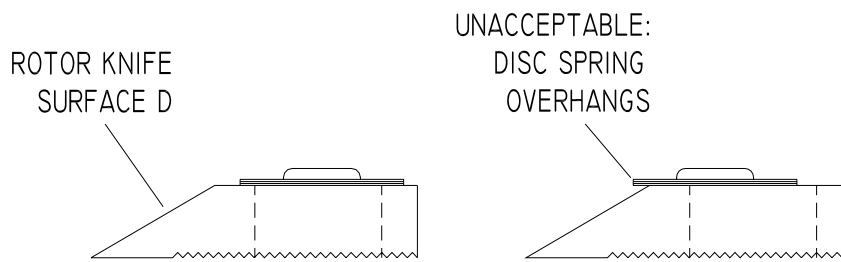

FIGURE 7
Rotor knives cylindrically ground on the cutter rotor should remain untouched. When using "pre-ground" knives, clean all serrated surfaces. Attach knives to rotor using eight (8) 5/16-18 x 1" button head cap screws and eight (8) disc springs. Fasten knives to rotor in equivalent serrations (so that knife edges rotate on same arc-nominally 6-3/4" DIA.). Lock rotor as described previously and tighten screws to 19 ft-lb. Repeated sharpening of rotor knives moves surface D closer to the edge of the disc springs. Rotor knives *MUST BE REPLACED* if the disc spring washers overhang the knives as shown in FIG. 7.